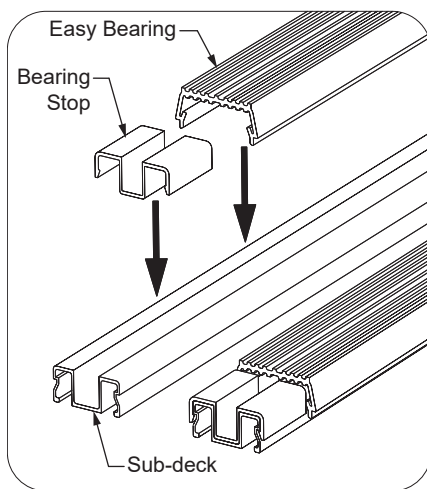

Figure 3
7. Snap down Easy bearings (Hallco #39-6602) starting with the full length bearings closest to the NEXUS™ and working your way out. Trimming the last bearing to fit (fig. 3).